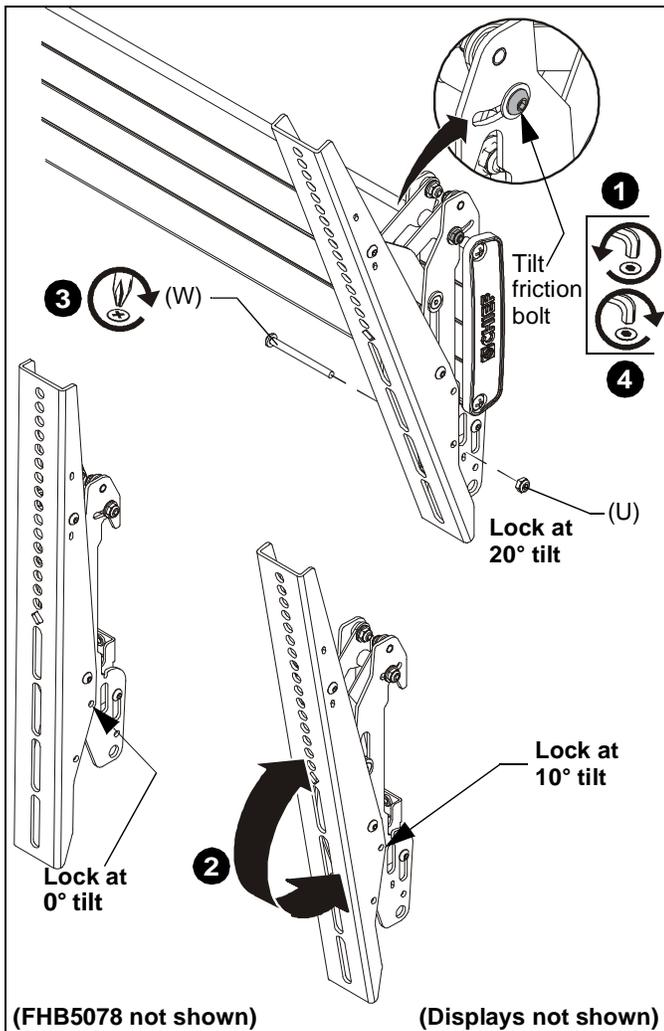

Figure 20
1. If necessary, loosen button head tilt friction bolt (located on side of interface bracket). (See Figure 20)
2. Adjust tilt as required. (See Figure 20)
3. The tilt may be locked at 0°, 10° and 20° using one 10-24 x 2-1/4" Phillips head screw (W) and one 10-24 lock nut (U) per interface bracket. (See Figure 20)